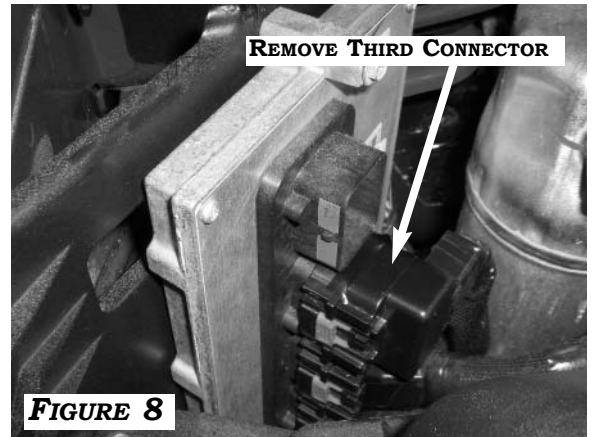
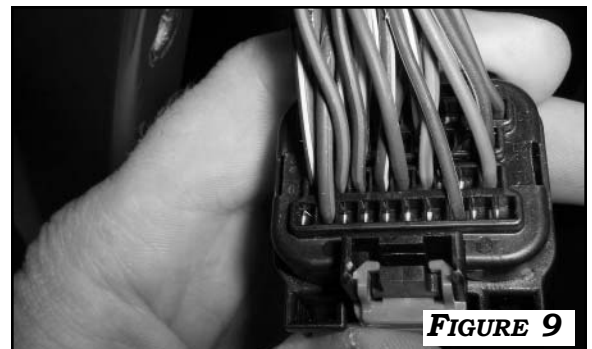

FIGURE 8
FIGURE 9
4. LOCATE ECM AT PASSENGER SIDE FENDER WELL. GO TO THIRD CONNECTOR (WHITE ON BOTTOM SIDE). **FIGURE 8.** REMOVE TOP OF CONNECTOR. LOCATE **PIN 15 VIOLET/BROWN WIRE**, **PIN 18 VIOLET/ORANGE WIRE**, AND **PIN 34 VIOLET WIRE**. **FIGURE 9.** IF WIRES ARE PRESENT, THEN VEHICLE IS PREWIRED. REMOVE PINS FROM ROSTRA CLOCKSPRING/ECM HARNESS ON ECM SIDE AND USE IN LINE CONNECTORS SUPPLIED IN KIT TO CONNECT.